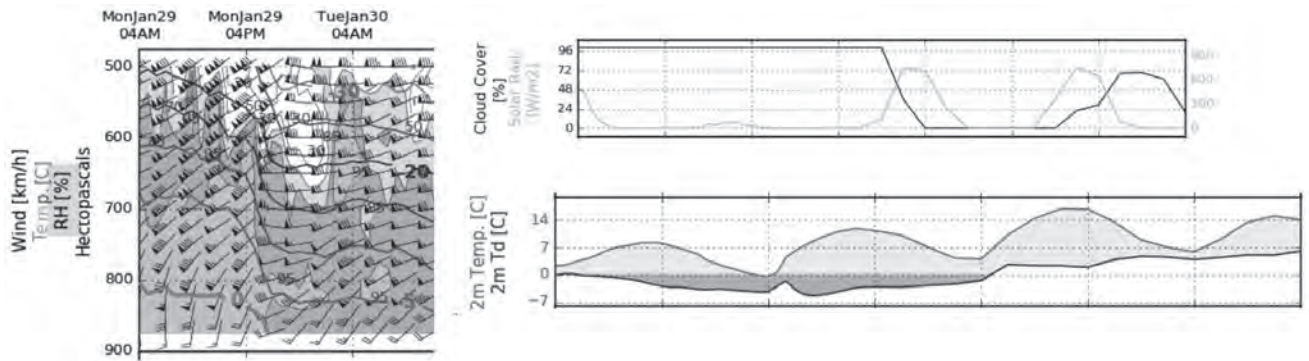

FIGURE 2
a) Changes in intensity: In the left panel of Figure 2, isotherms are displayed in grey tones (pink-blue regularly) colours decreasing with time throughout much of Monday. However, a distinctly more intense temperature drop can be seen around 7 p.m. on Monday between 800 hPa and 500 hPa. Simultaneously, relative humidity decreases and winds veer from southwesterly to westerly. These are all hallmarks of a passing cold front.
- b) Transitions from one pattern into another: The top right panel in Figure 2 shows flat-lining cloud cover and solar radiation, indicating persistent conditions for the first half of the period. As cloud cover decreases, solar radiation begins to show a diurnal pattern with a decent amplitude of about 700 watts per meter squared ( $W/m^2$ ). An important next step is to understand what caused this change in cloud cover and what it means to your operation(s).
- c) Two patterns appearing at the same time simultaneously: The bottom right panel of Figure 2 shows a diurnal temperature pattern overlain by a gradual temperature increase over the first three-quarters of the time period. Notice how both daytime highs as well as overnight lows increase over that time. This hints not just at clearing skies but also at a generally warming air mass.